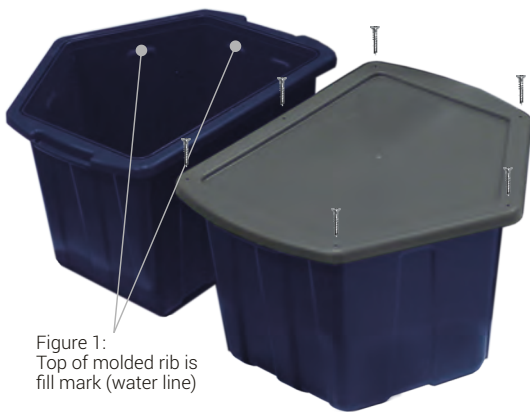

Figure 1:
- Take Hydro-Mount bin to sink and fill with water to top of molded rib (see water line in Figure 1)